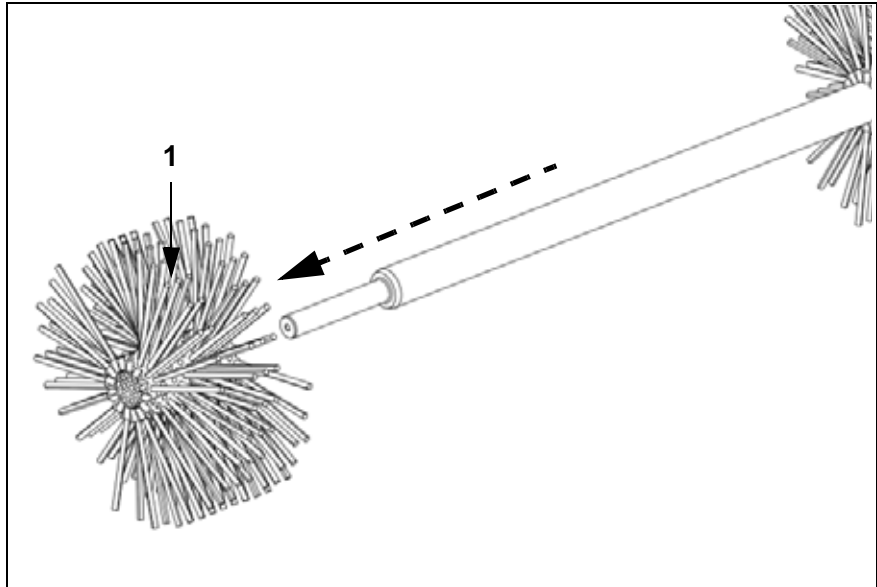

Fig. 16:
4. Loosen screws in the locking ring (1, Fig. 16) and the adjustment ring for the zigzag system (2, Fig. 16) at one side and pull off from the main shaft.